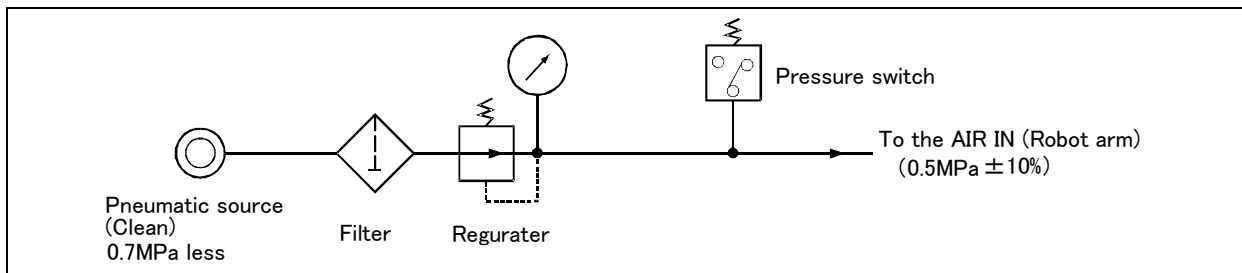

Fig.2-10 : Air supply circuit example for the hand
Fig. 2-10 shows an example of pneumatic supply circuitry for the hand.
- (1) Place diodes parallel to the solenoid coil.
- (2) When the factory pneumatic pressure drops, as a result of the hand clamp strength weakening, there can be damage to the work. To prevent it, install a pressure switch to the source of the air as shown in Fig. 2-10 and use the circuit described so that the robot stops when pressure drops. Use a hand with a spring-pressure clamp, or a mechanical lock-type hand, that can be used in cases where the pressure switch becomes damaged.
- (3) The optional hand and solenoid valve are of an oilless type. If they are used, don't use any lubricator.
- (4) Supply clean air to the vacuum generation valve when you use clean type robot.
- (5) If the air supply temperature (primary piping) used for the tool etc. is lower than ambient air temperature, the dew condensation may occur on the the coupling or the hose surface.